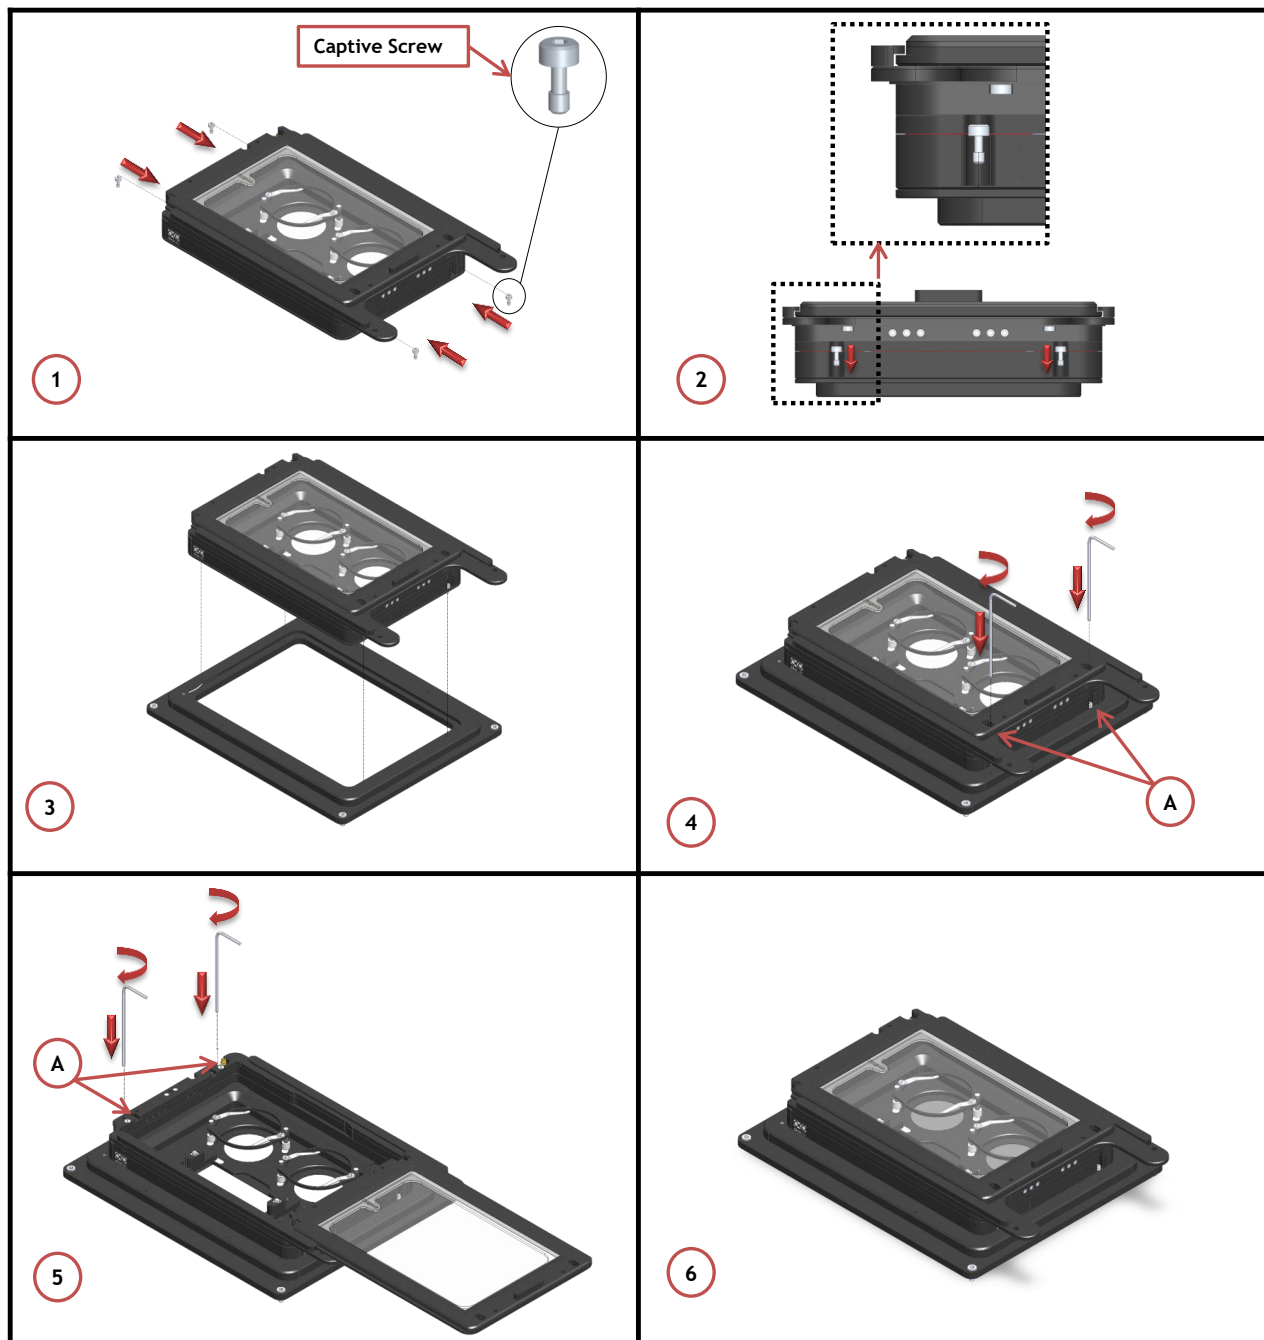

Figure 23. How to assemble the chamber to the adapter.
Follow the steps shown in the images of Figure 23 and listed below in order to correctly connect the chamber with its adapter:
1. Follow the arrows shown in Figure 23 Images 1 and 2 for placing the captive screws in the proper housings
2. Place the chamber on the adapter as shown in, Figure 23 Image 3
3. Use a 1.5mm metric Allen Wrench to tighten two of the four captive screws in place (A in Image 4) while keeping the sliding lid closed. (See Figure 23 Image 4)
5. Image 6 of Figure 23 shows the chamber fixed on the adapter